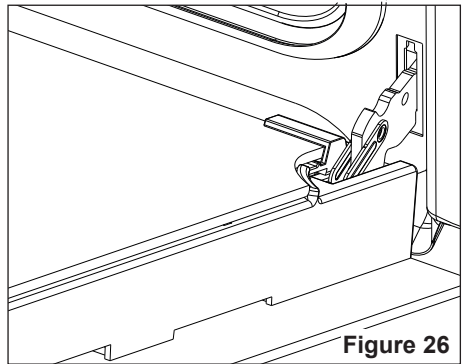

Figure 26
- Gently close the door until left and right hinge levers "A" are hooked to part "B" of the door (fig. 26).